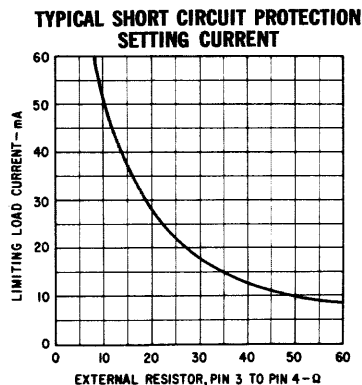

FIGURE 3
- (3) Selection of Short Circuit Current: The maximum limit on the internal short circuit protection at any current from 1 to 50 mA can be set by externally connecting a preselected resistor (see figure 3) between pin 3 and pin 4.
- (4) This pin is made available for connections to compensating networks which can be used to alter the dynamic response of the regulator to meet unusual load requirements. No connection is necessary for normal operation.